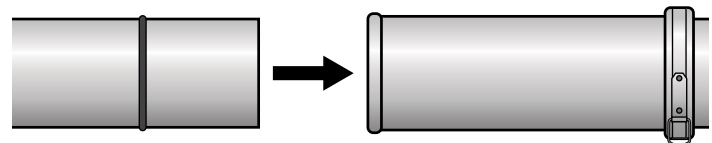

FIG. 25e
- Slip the cut end of the pipe into the Sleeve [FIG. 25e]. Be sure that the 11" Sleeve is downstream of the cut piece.